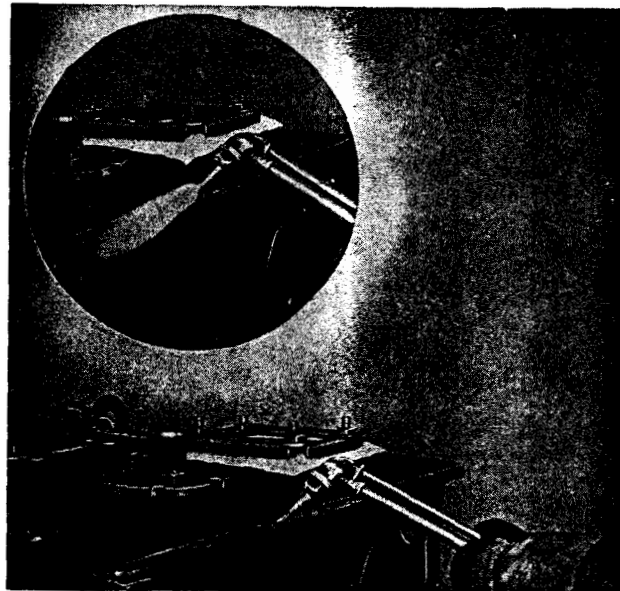

FIG. 5. Removing Weld by Gas Torch
The external operating mechanism is connected to the tap changer drive shaft through a shaft and slip joint. This slip joint plus universal joints permit tank expansion and slight shaft misalignment without hindrance to operation. When a tap changer or external operating mechanism is installed in the field, a check of the slip joint for free operation should be made (see Fig. 5).
3. Use on Oxweld #13, Style 1511 tip, directing the flame in the direction of the weld as shown in Fig. 5.